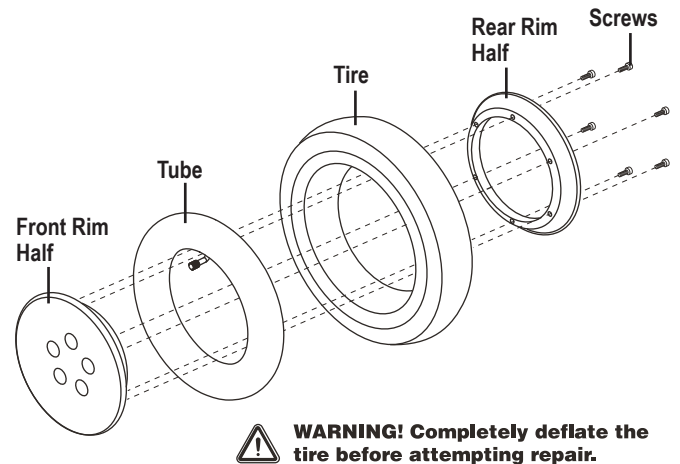

Figure 27. J4 Drive Wheel Disassembled
6. Remove the screws and separate the front and rear rim. **See figure 27.**
10. Reinstall the five (5) lug nuts onto the wheel hub and tighten.